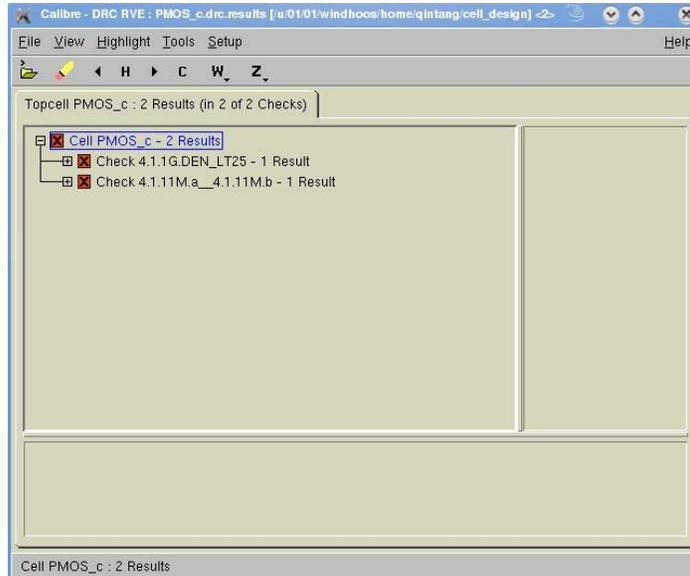
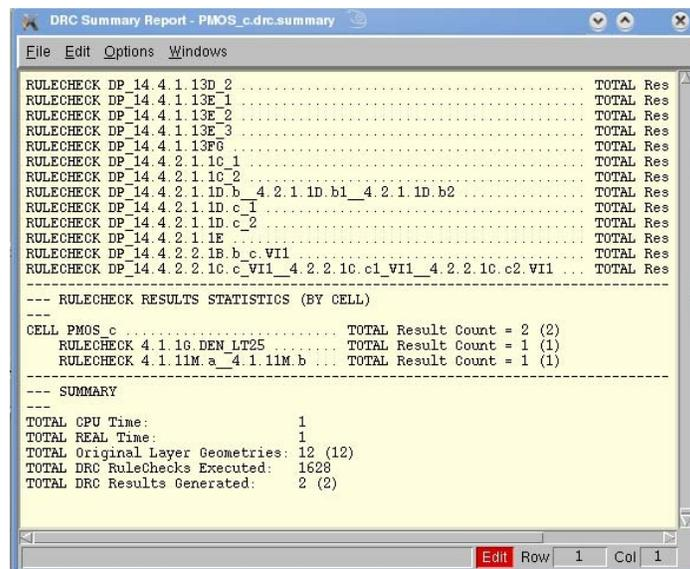

Fig 12. Calibre-DRC RVE window
Fig 13. DRC Summary Report
3. Click **Run DRC** icon on the left of **Calibre Interactive – nmDRC** window. Finally you will have **Calibre – DRC RVE** and **DRC Summary Report** windows with design rule violations as indicated in Fig 12 and Fig 13 respectively.
4. Correct your layout according to the errors and warnings in **Calibre – DRC RVE** window (Fig 12). Click at the errors to get some information about it at the bottom of **Calibre – DRC RVE** window (Fig 12). At the same time, the location of error will be highlighted in the layout. It should be easy for you to realize what should be modified.
5. Repeat correcting layout and running DRC until there is no error shown in **Calibre – DRC RVE** window (Fig 12). However, if there are errors like